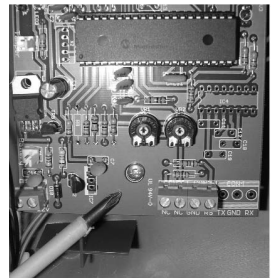

Fig 3.3
- The angle of the microwave can also be adjusted with the use of the adjusting screw near the top of the PCB. The spring loaded screw can be tightened or loosened to achieve a desired angle (fig 3.3).